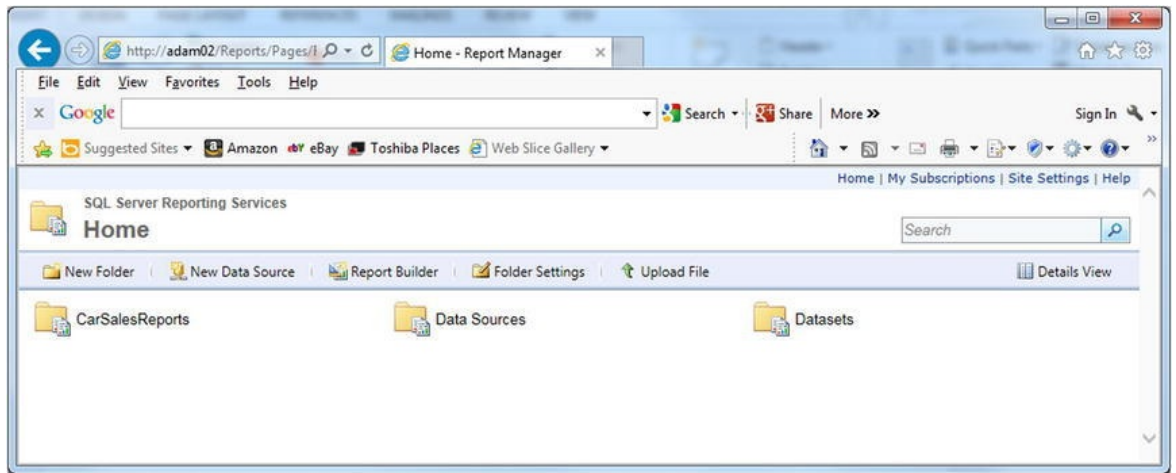

Figure 12-3. The Report Manager
2. Assuming that you have deployed all your reports, data sources, and shared datasets, open Report Manager using the URL for your report server. This brings you to the browser screen shown in Figure 12-3.